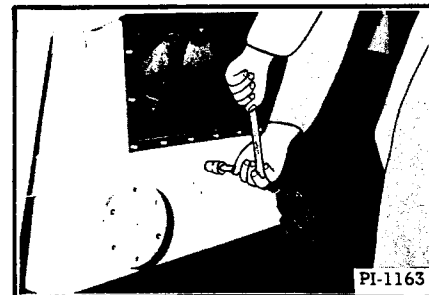

Fig. 97 Loosening Outside Mounting Bolts
- A. Loosen the two outside lower jackshaft mounting bolts (Figure 97).
- E. When the chains have the proper tension, tighten the inside front holding nut (Figure 100). It is important that this nut be tightened first. Next, tighten the outside nuts (Figure 97). Tighten the inside rear nut. Tap the face of the large jackshaft sprocket to align. On early machines with coarse threaded bolts, replace with the new heat treated fine threaded bolts and lock nuts and tighten to 110 ft. lbs torque.